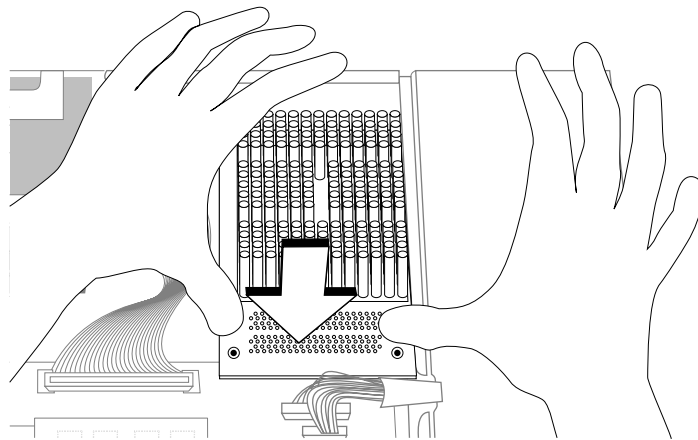

Figure 9-14 Installing the CPU Module
8. Install the replacement CPU module, as shown in Figure 9-14.